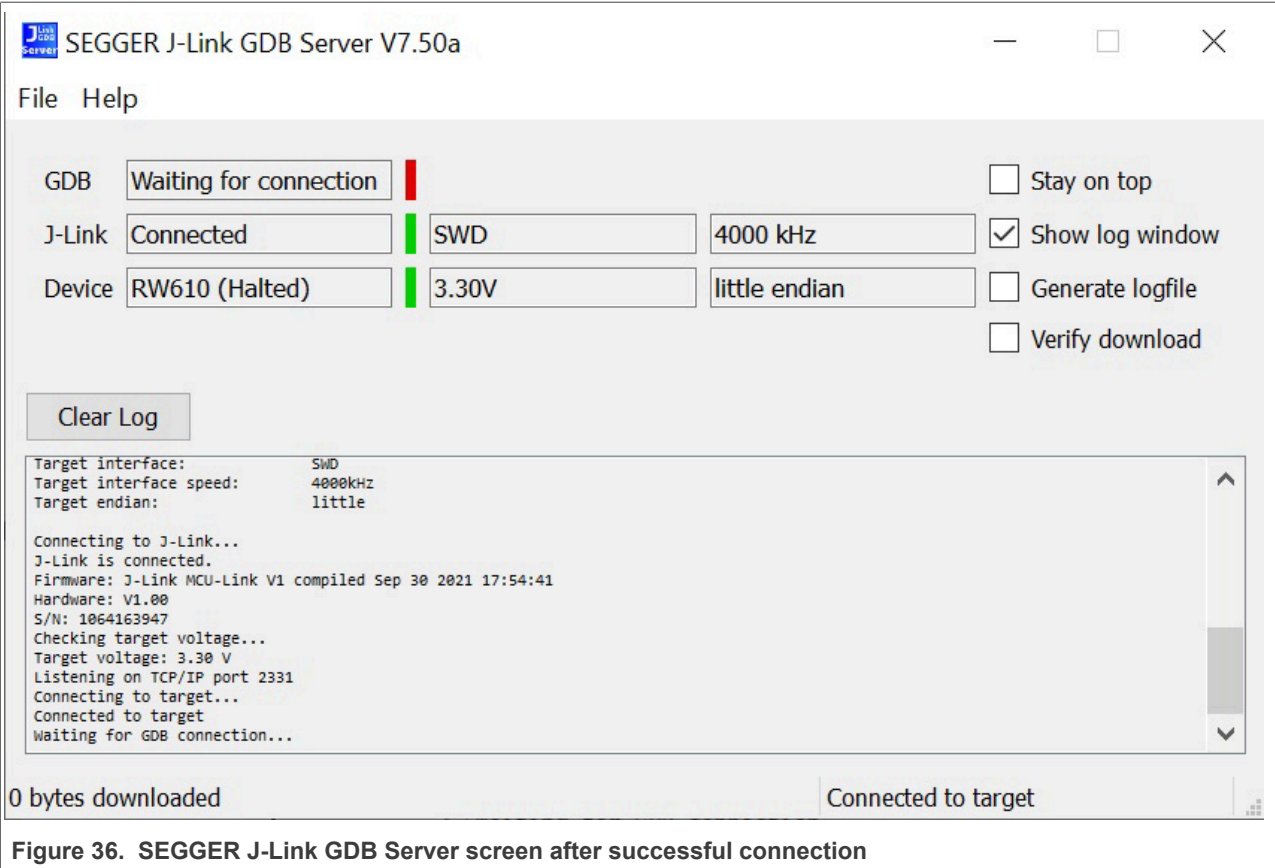

Figure 36. SEGGER J-Link GDB Server screen after successful connection
5. After it is connected, the screen appears as in Figure 36.